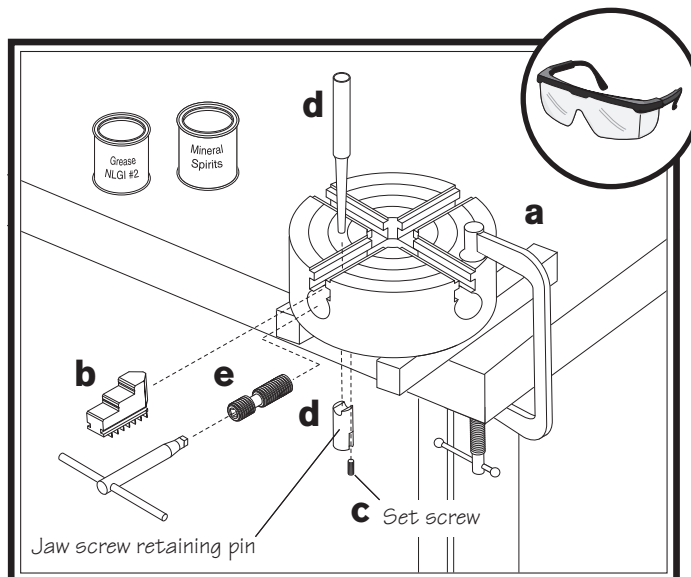

Figure 10. Chuck sequence of disassembly.
3. Leaving the camlock studs in place, disassemble the chuck in the sequence listed below and shown in **Figure 10**.
- a. Place a set of wooden blocks under the chuck so the camlock studs do not rest on the table, and clamp the chuck to the table as shown in **Figure 10**.
6. Coat all parts with any automotive NLGI #2 grease, and carefully re-assemble the chuck in the reverse order shown in **Figure 10**.